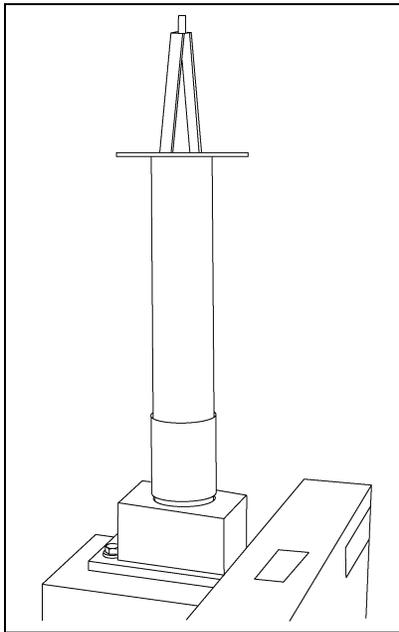
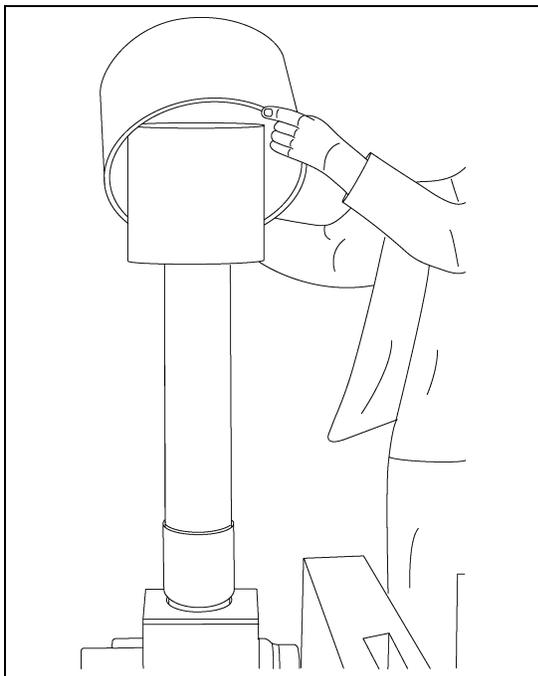
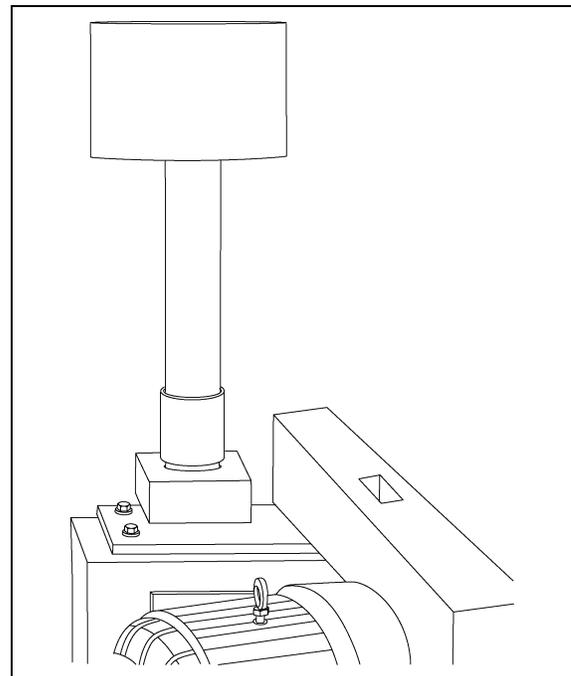

Figure 7A
Figure 7B
Figure 7C
2. Place the air filter element with pre-filter on the base and cover with the filter canister using the 3/8" wing nut and washer. (See Figure 7A, Figure 7B and Figure 7C.)